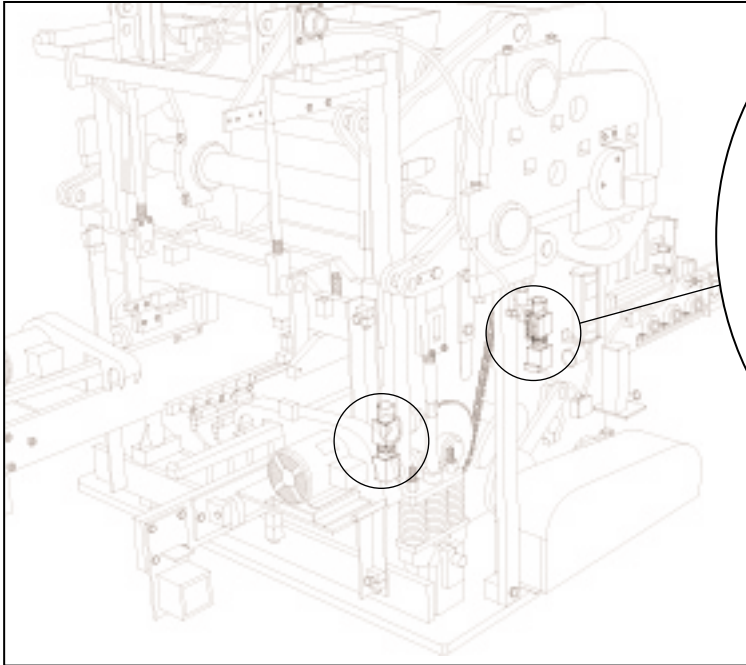

Figure 4.23 BOLTS AT ALL 4 CORNERS (RIGHT SIDE SHOWN).
- b. Loosen bolts at all 4 corners that secure mold throat assembly (see figures 4.23 and 4.24). Remove top spacers.